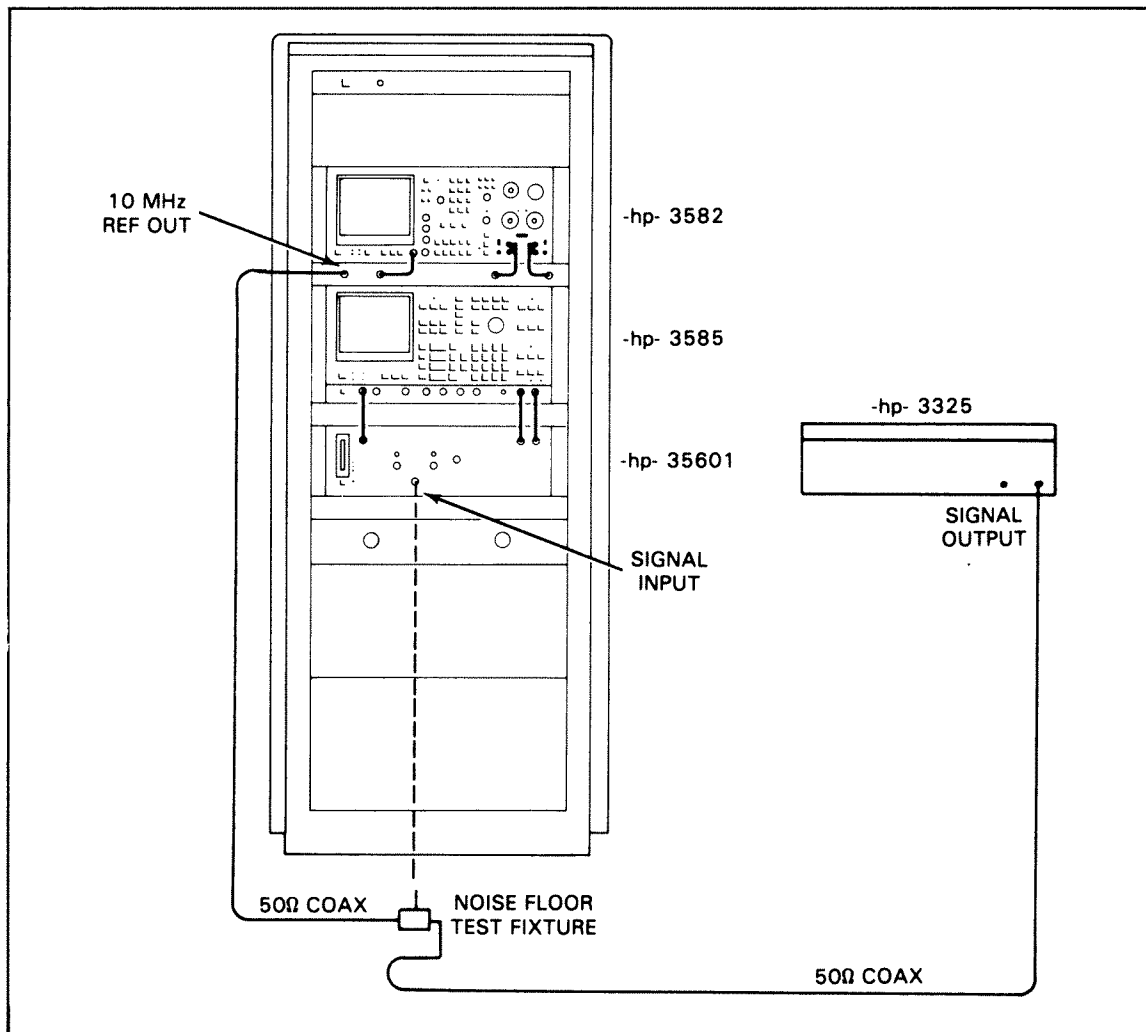

Figure 7-5. Intermodulation Distortion Test Set-up.
- b. Connect equipment as shown in Figure 7-5. Intermodulation Distortion Test Set-up.